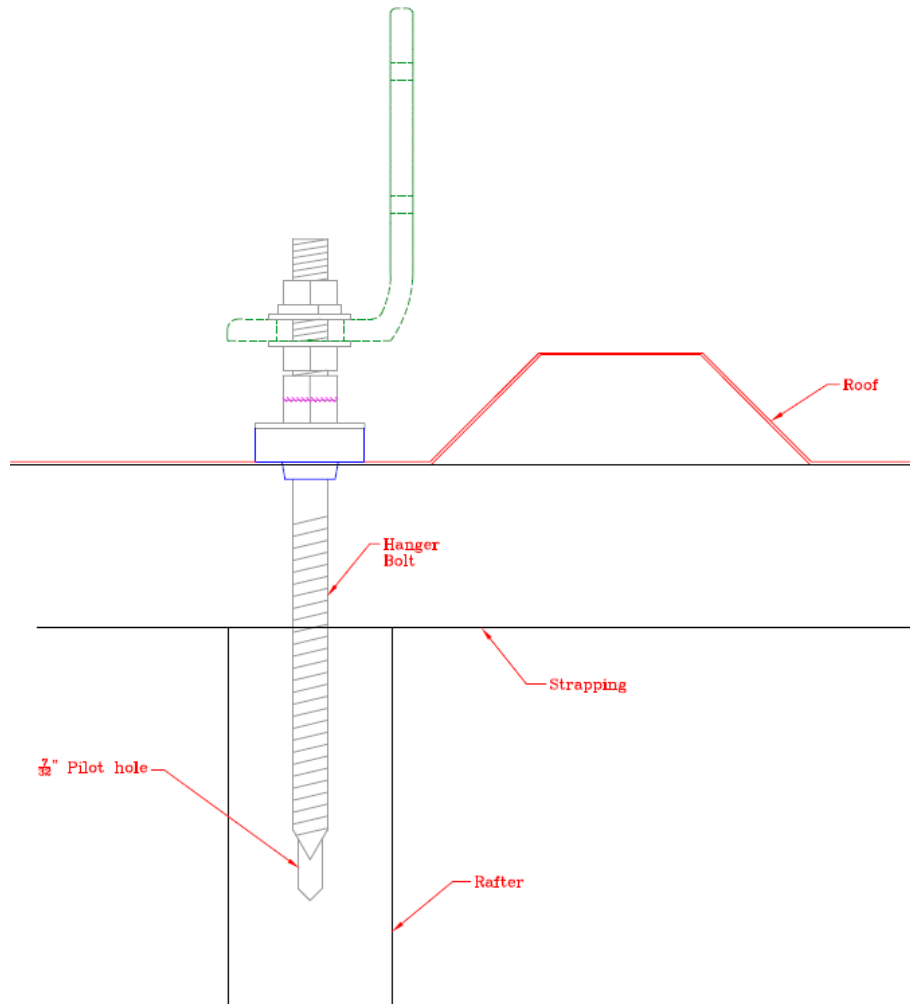

Figure 39 Hanger Bolt Valley Installation
**Hanger Bolt peak installation (Figure 39 Hanger Bolt Peak Installation):**